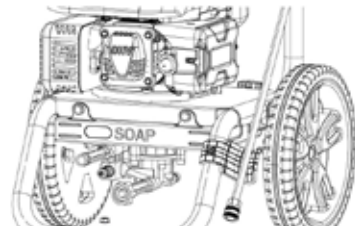

Fig. 1
- Foot (1)
**Attaching Foot Assembly (See fig 1)**